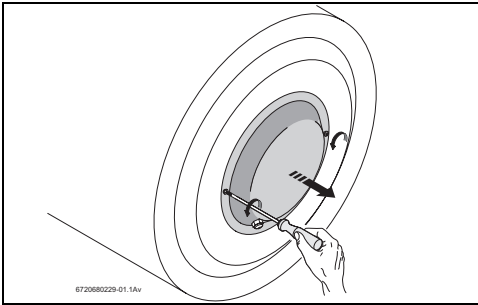

Fig. 2
- ▶ Remove the maintenance cap (→ Fig. 2).